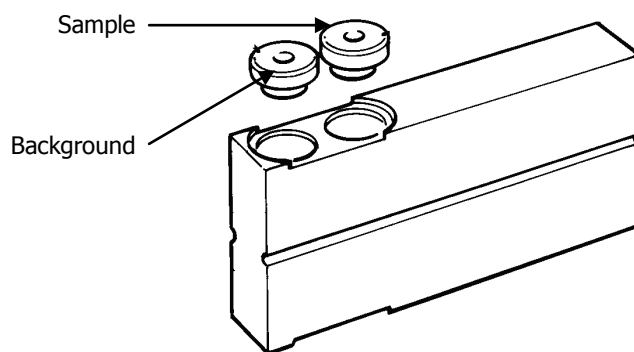

Figure 12 Background and sample positions for the sample cups
4. Place the sample cup containing KBr/KCl powder in the background (front) well in the sample holder (Figure 12).
7. Place the sample cup containing your sample in the sample (rear) well in the sample holder (Figure 12).